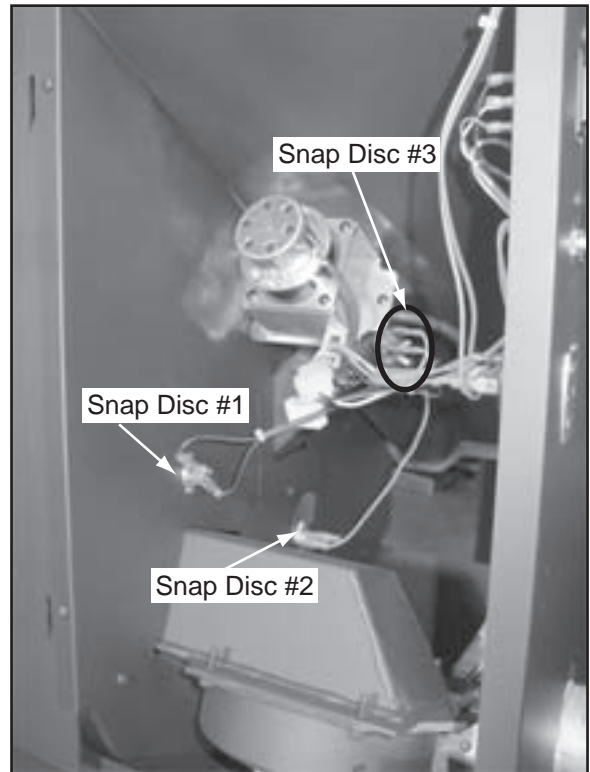

Figure 20.1
3. Snap disc #1 is located on the convection plenum below the feed motor. **Figure 20.1.**
3. Snap disc #2 is located on the convection plenum in the center of the appliance above the convection blower. **Figure 20.1.**
3. Snap disc #3 is located on the bracket on the feed tube near the feed motor. **Figure 20.1.**